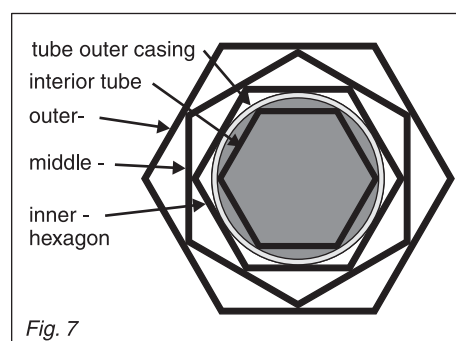

Fig. 7
its 42 mm diameter. This is achieved with three hexagonal tube sections of different sizes, that are pushed and glued together with an offset. The appearance of this from the front is shown in Figure 7. Finally an external circular casing is stuck around this. To protect the objective lens the outer casing protrudes a little, which is why it is wider than the hexagonal parts. However, as was the case with Galileo, only the inner part of the lens is used optically.
Step 20: After the adhesive has dried, push the middle hexagon [A4], initially without adhesive, over the inner one and rotate it until the centres of its sides are accurately on the edges of the inner hexagon (see Fig. 7). This is where it will be fixed with adhesive. Then take it out again and bend its sides inwards a little so that it will be firmly located. Apply plenty of adhesive to the edges of the inner hexagon, push the middle hexagon along it and rotate it so that the centres of its sides are on the edges of the inner hexagon. Again, check that this gives a regular hexagon when viewed from the front and that it is flush with the end of the tube and the inner hexagon. Allow it time to dry.